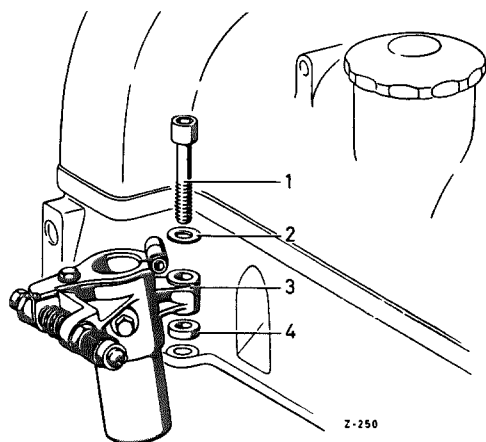

Fig. 01-4/49
When installing a distributor bearing with the fixing lug (3) cast integral, please note that the hexagon socket screw (1) is 45 mm long, whereas on distributor bearings of the 1st Version (without fixing lug) the hexagon socket screw was only 20 mm long (Fig. 01-4/49).